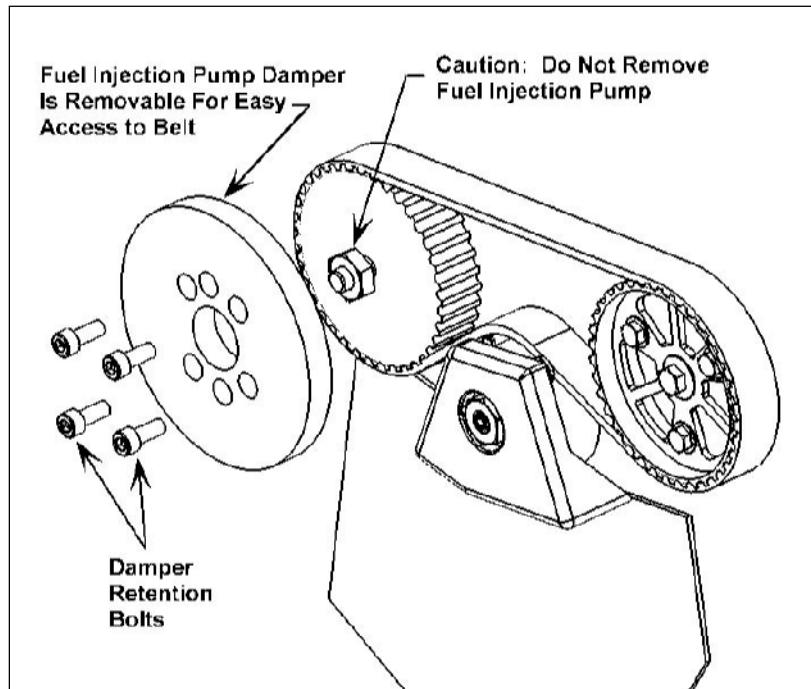

Fig 5: Fuel Injection Pump Damper Removal; Audi's Guideline
3. Remove the fuel injection pump vibration damper bolts x4, see Fig.5